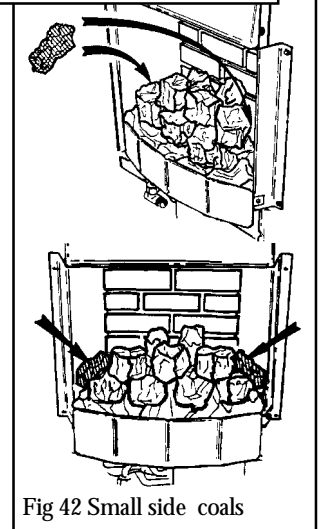

Fig. 42 Small side coals
13.4.3 Place the two remaining small coals alongside the main coals (See figure 42).